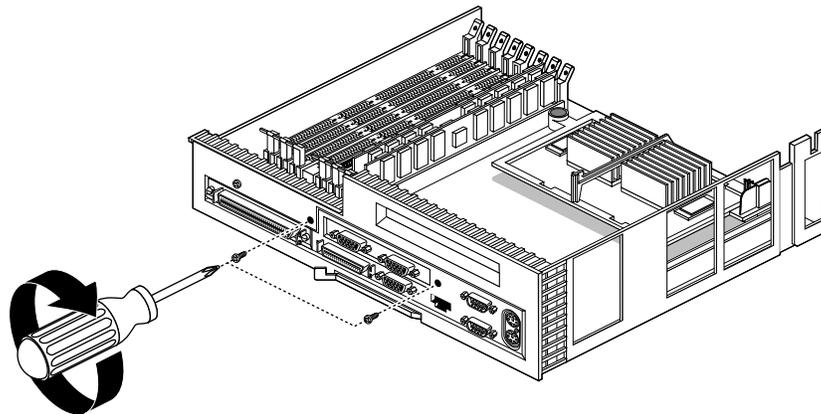

Figure 1-20 Securing the Option Board
4. Secure the option board by replacing the screws as shown in Figure 1-20.